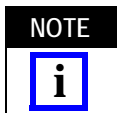
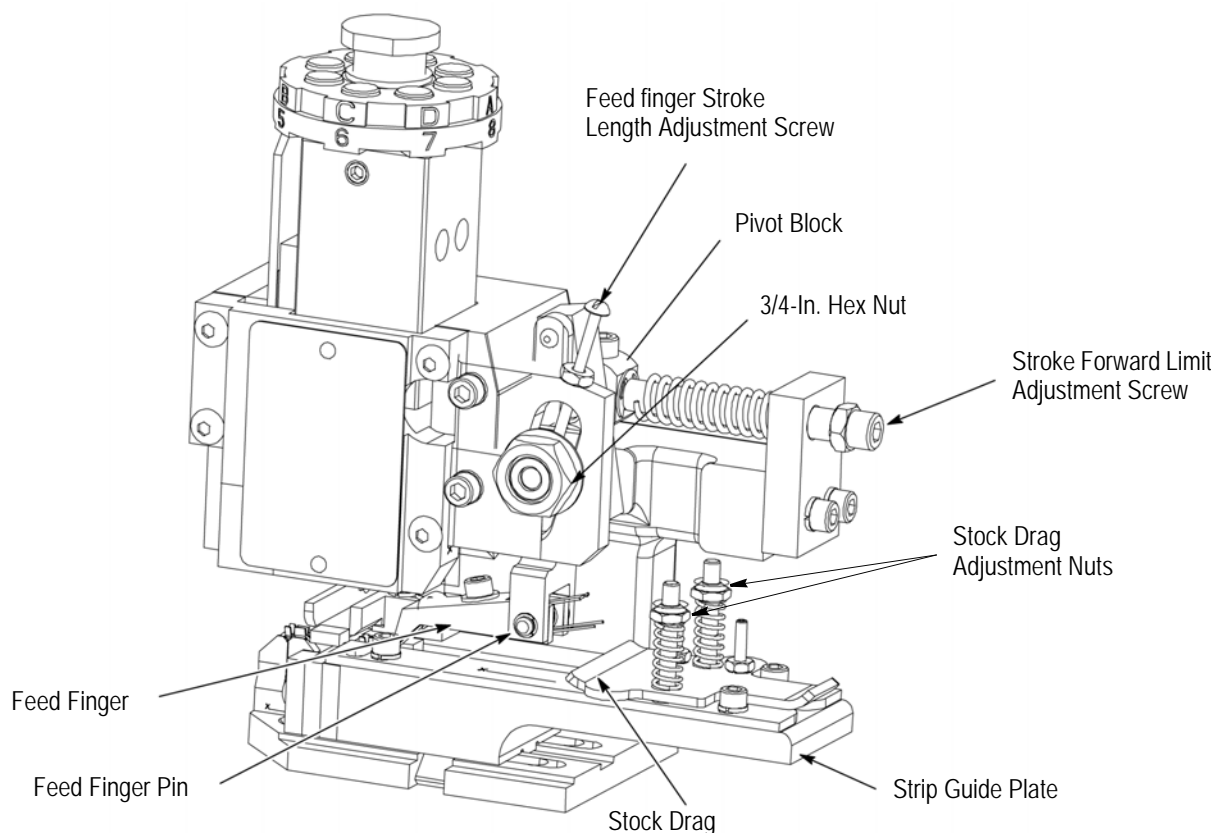

Figure 1
Figure 2
Heavy Duty Miniature Quick-Change Applicators (Figure 1) apply end-feed strip terminals to pre-stripped wires. Each applicator accepts the strip form of certain terminals, which are identified on the applicator parts list and exploded view drawing (Applicator Log) for each applicator. The terminal listed on the data plate is the one that was specified when the applicator was ordered.
The main components of the applicators with mechanical feed are identified in Figure 1 and Figure 2. The ram assembly is shown in detail in Figure 3. Figure 5 and Figure 6 show the applicators with air feed.
a. Applicators with mechanical-feed systems (Figure 2) -